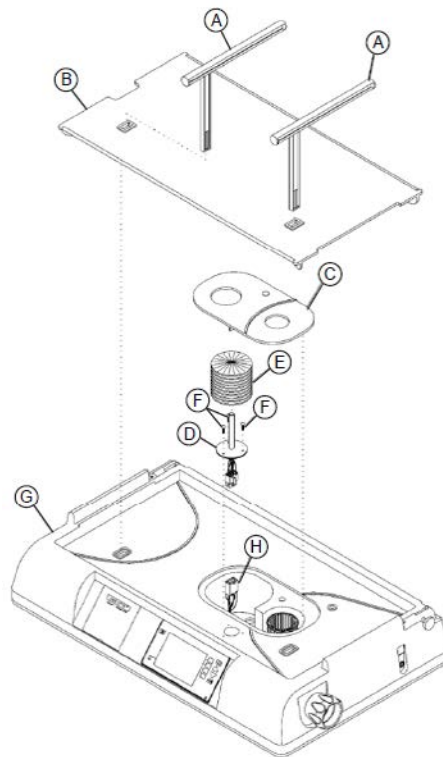

Fig. 66 Heater assembly
- 16** Allow 45 minutes for the heater assembly (Fig. 66/D) to cool.
- 17** Remove the heater radiator (Fig. 66/E) from the heater assembly (Fig. 66/D).